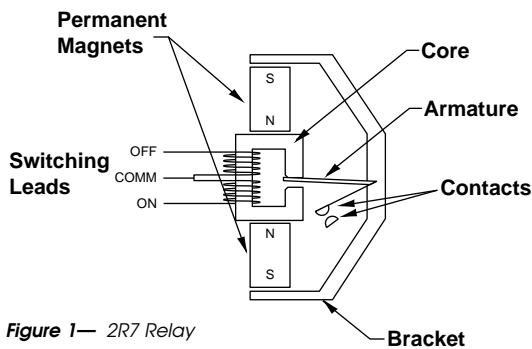

Figure 1— 2R7 Relay
Figure 1 is a drawing of the 2R7 showing the basic parts of the magnetic circuit. The leads of the split coil are color coordinated: Red (ON), Black (OFF), and Blue (COMMON).